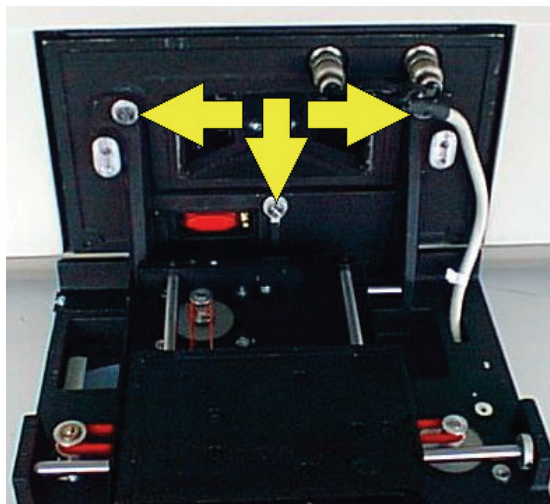

Figure 60 Plate Reader screws
7. Tighten the three screws that secure the Plate Reader to the LS 55, as shown in Figure 60.